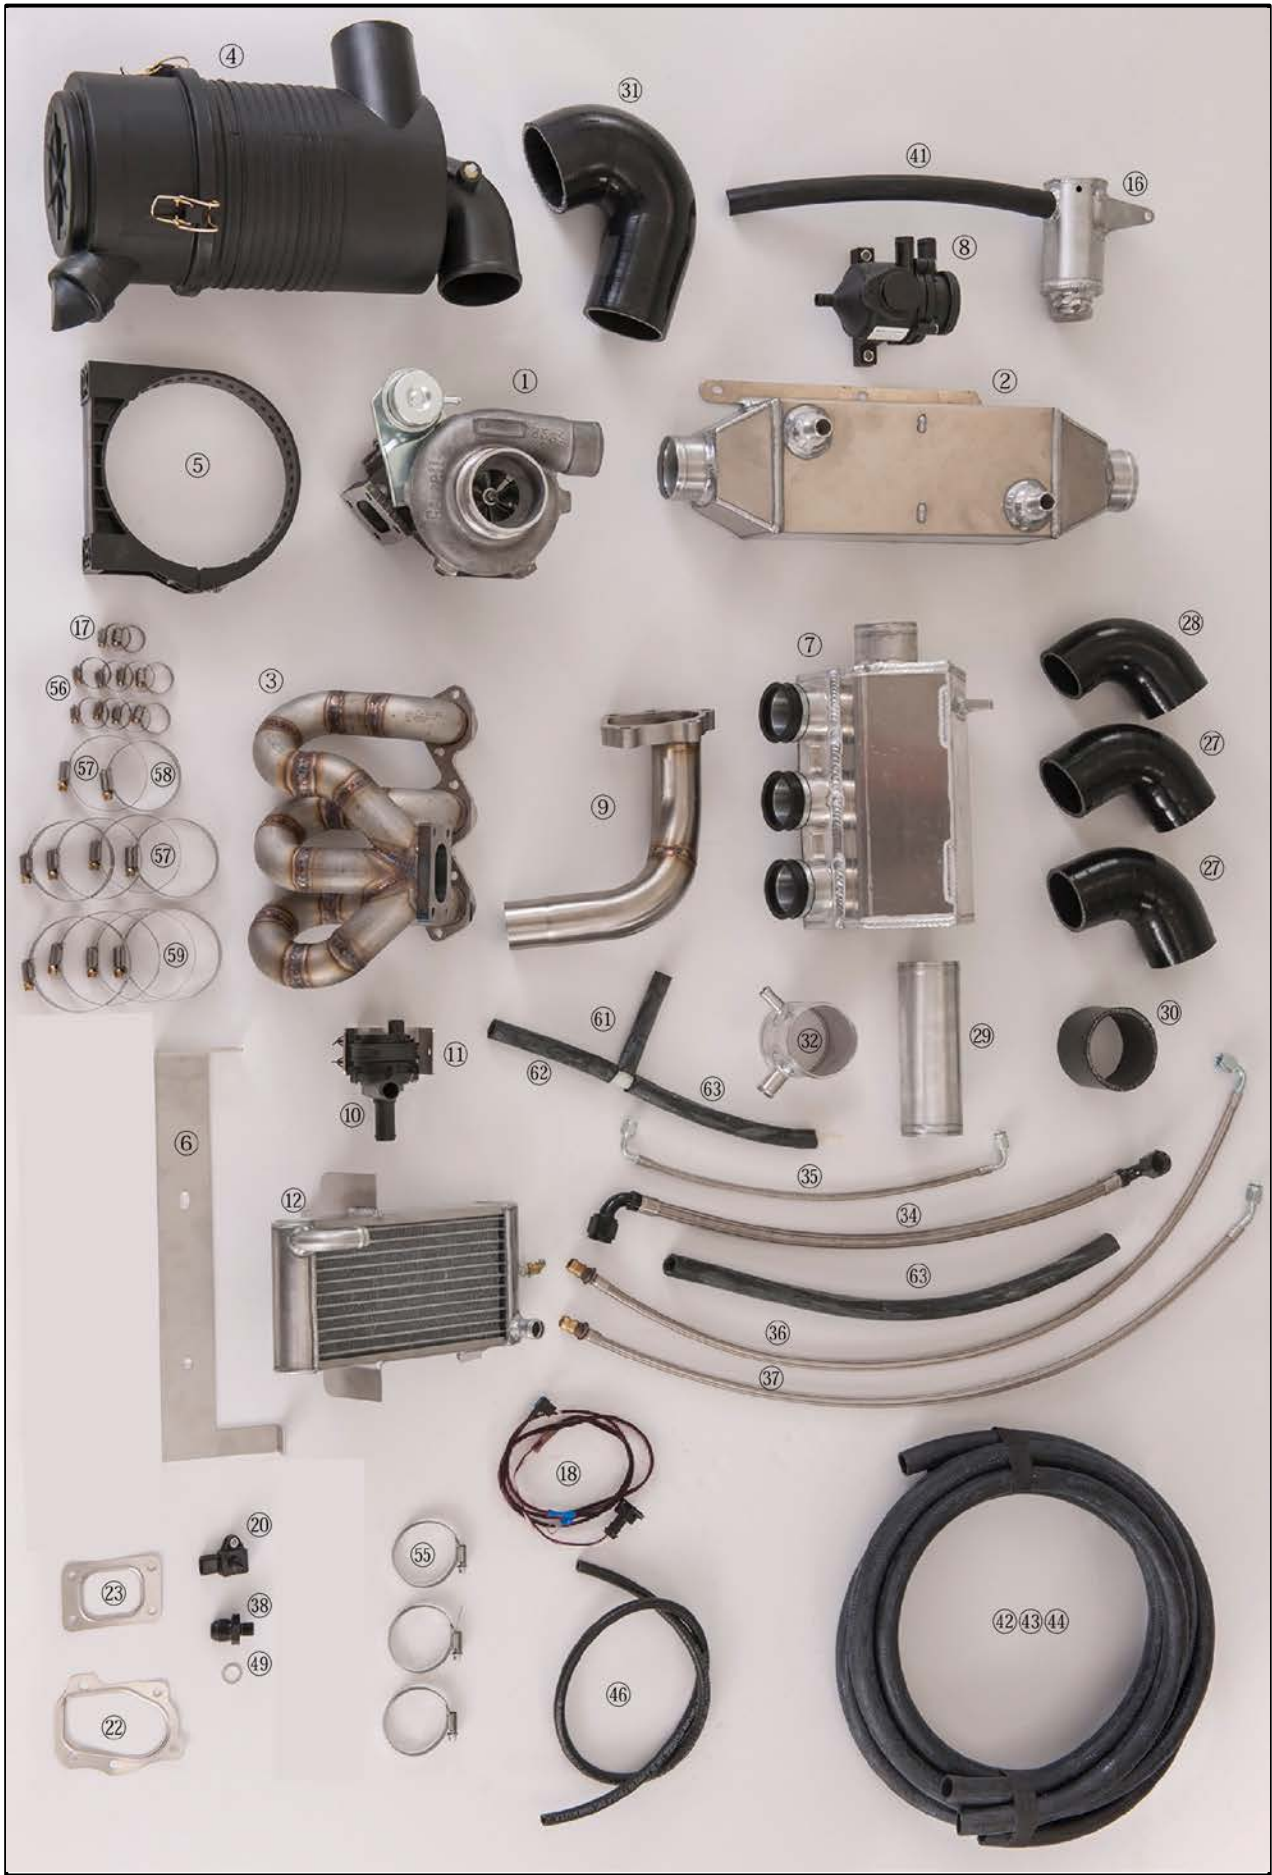

Fig. 1
- 1 The radiator (12) for the intercooler bolts into the front of the frame as shown in Fig. 1. Remove the nut and bolt that secure the top of the left side front shock and tilt the shock outboard. Slip the radiator into place from behind the left hand shock. Use two M6x16mm Flange Bolt (53) and two M6 Flange Nut (54) to secure the lower portion of the bracket. The top mount fits behind the voltage regulator, and is secured by the OE upper regulator bolt as shown in Fig. 1a. Reinstall the bolt and nut that secure the top of the shock and torque to 65 N·m (6.5 kgf·m, 47 lb·ft).